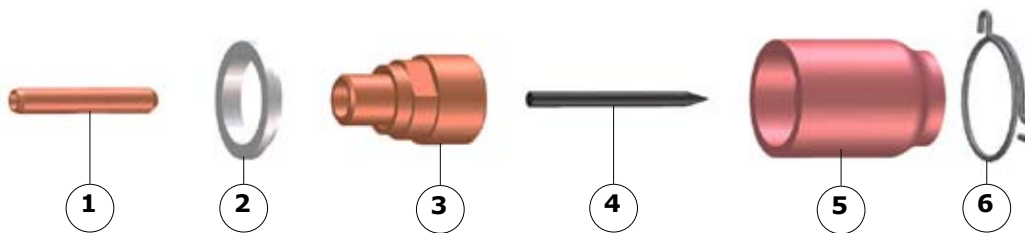

Fig.5.5 - Gas lens assembly
- Pass the electrode (Fig. 5.5 - 4) in the chuck (Fig. 5.5 - 1) with the tip of the electrode on the side of the slits in the chuck.
- Install the chuck/electrode assembly in the gas lens (Fig.5.5 - 3).
- Screw the gas lens with its washer (Fig.5.5 - 2) (pay attention to the direction of the washer) in the torch without tightening.
- Place the ignition ring (Fig.5.5 - 6) on the nozzle (Fig.5.5 - 5).
The ring (Fig.5.5 - 6) on the nozzle (Fig.5.5 - 5) is intended to facilitate ignition. Its braid (not shown) is connected to a grounded metal part. This ring must never come into contact with the torch, otherwise the welding current will pass through the braid and destroy it.